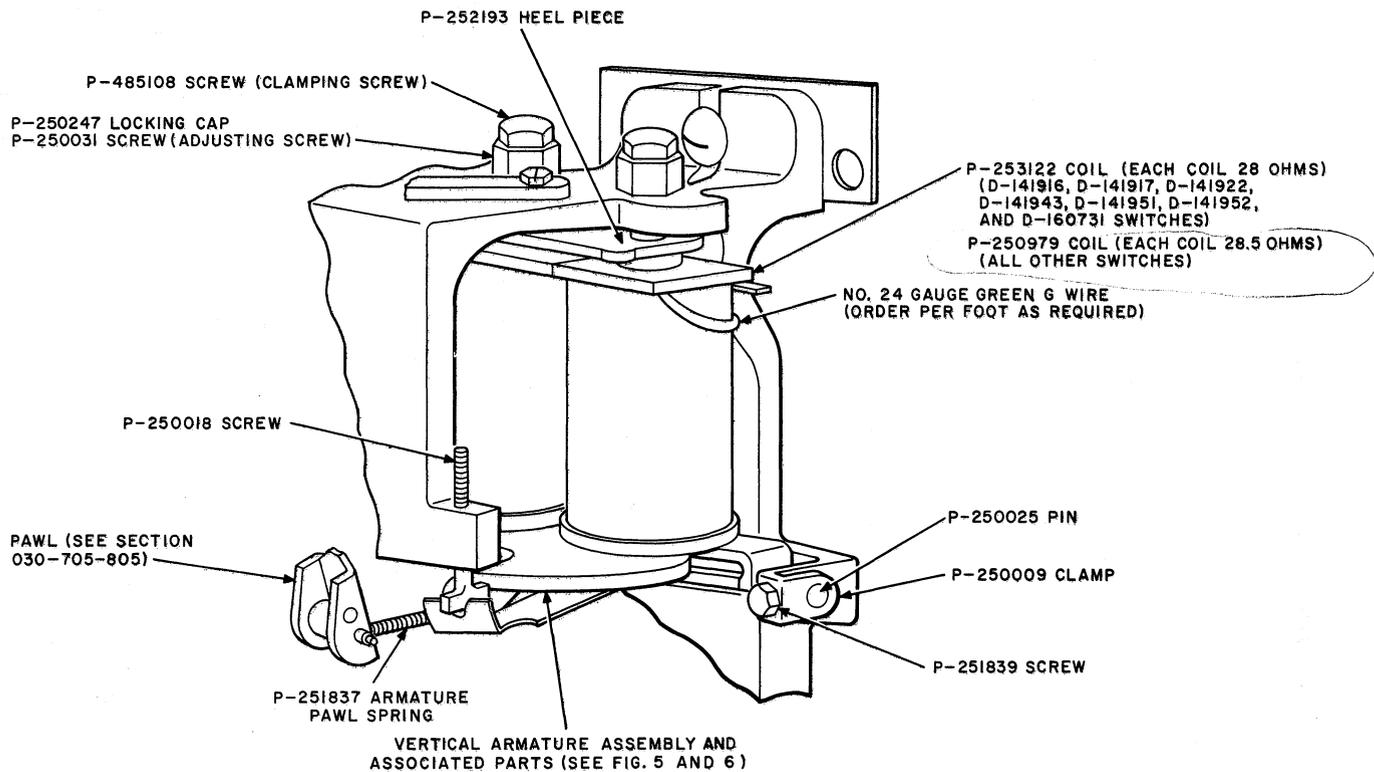

Fig. 2 — Vertical Magnet and Associated Parts
1.01 This section is reissued to add paragraph 2.02, 2.03, 2.04, to update Fig. 2, 3, 4, 6, to update list of tools and materials, to revise paragraph 3.36.